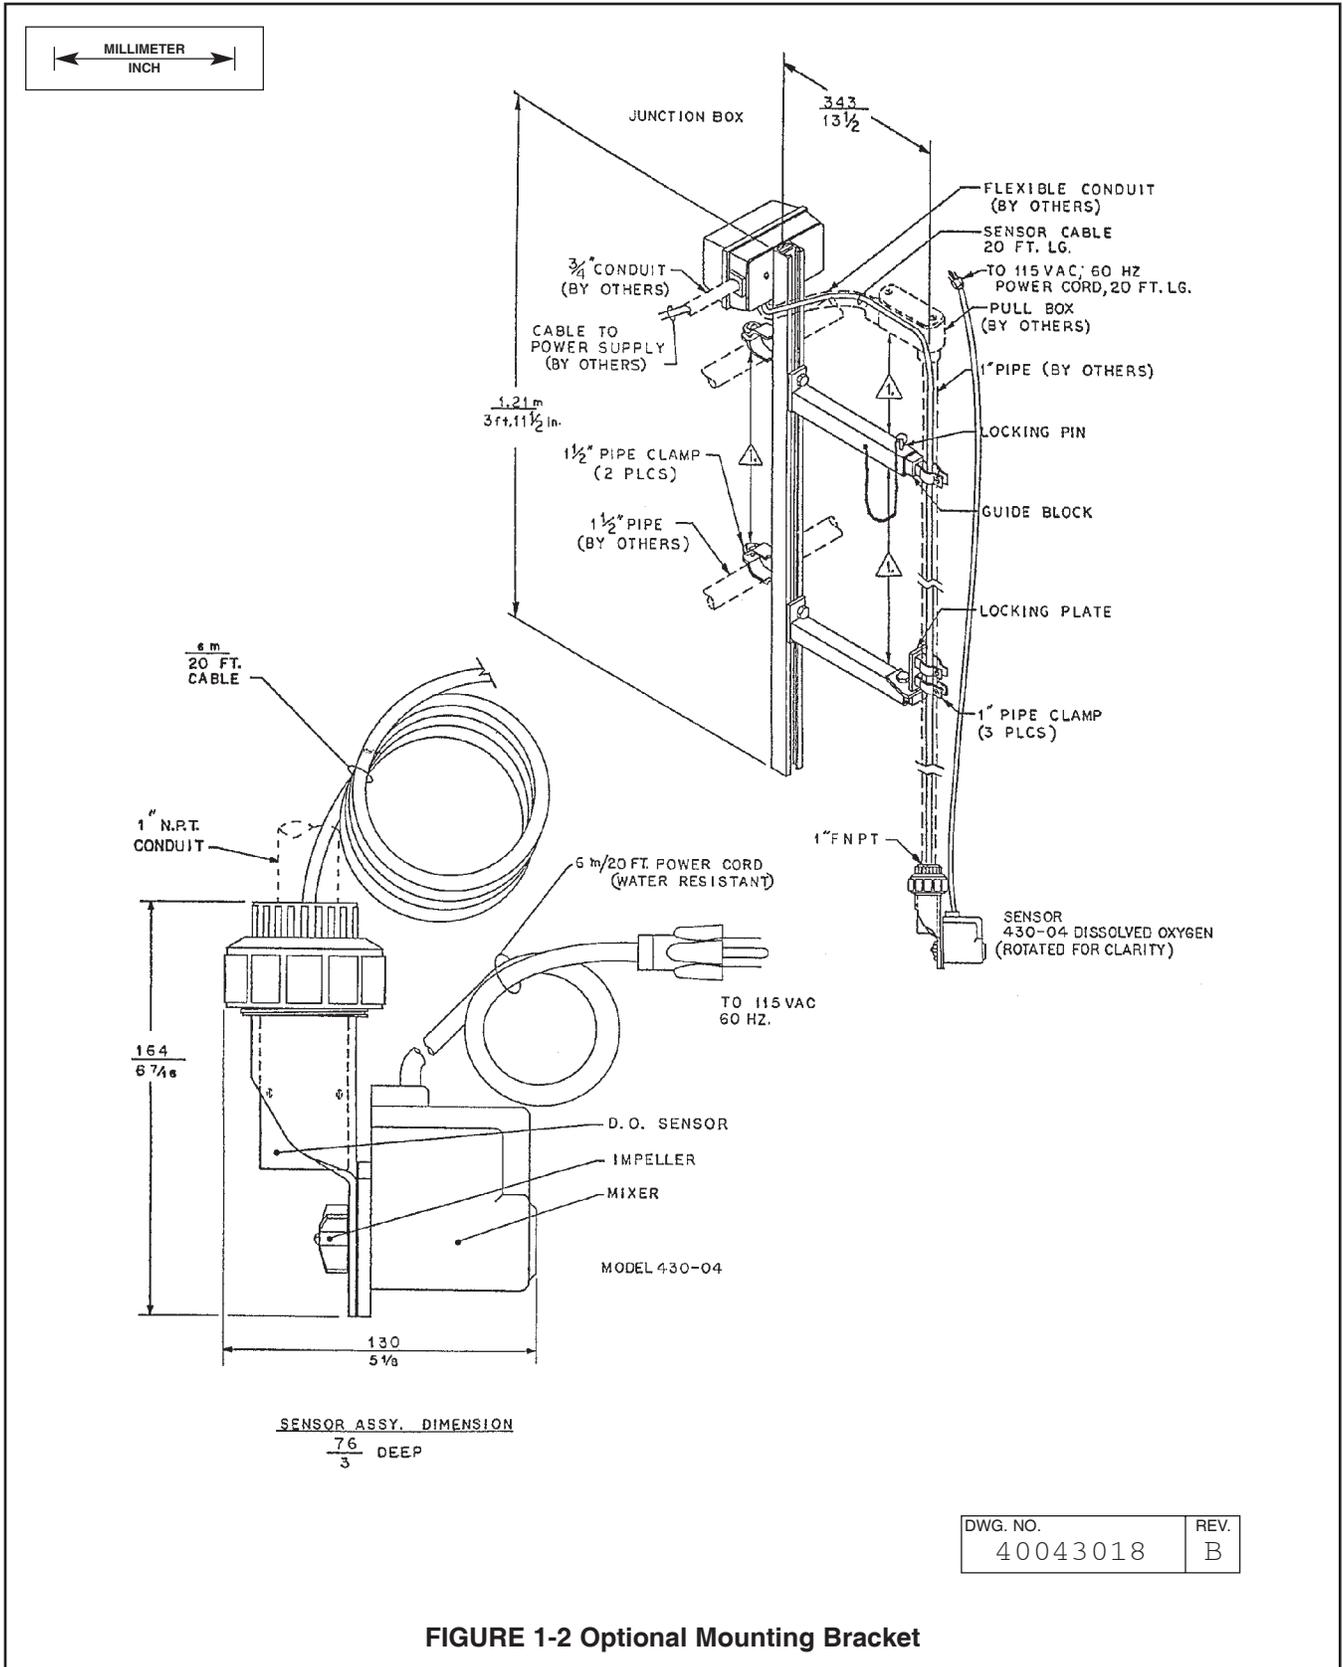
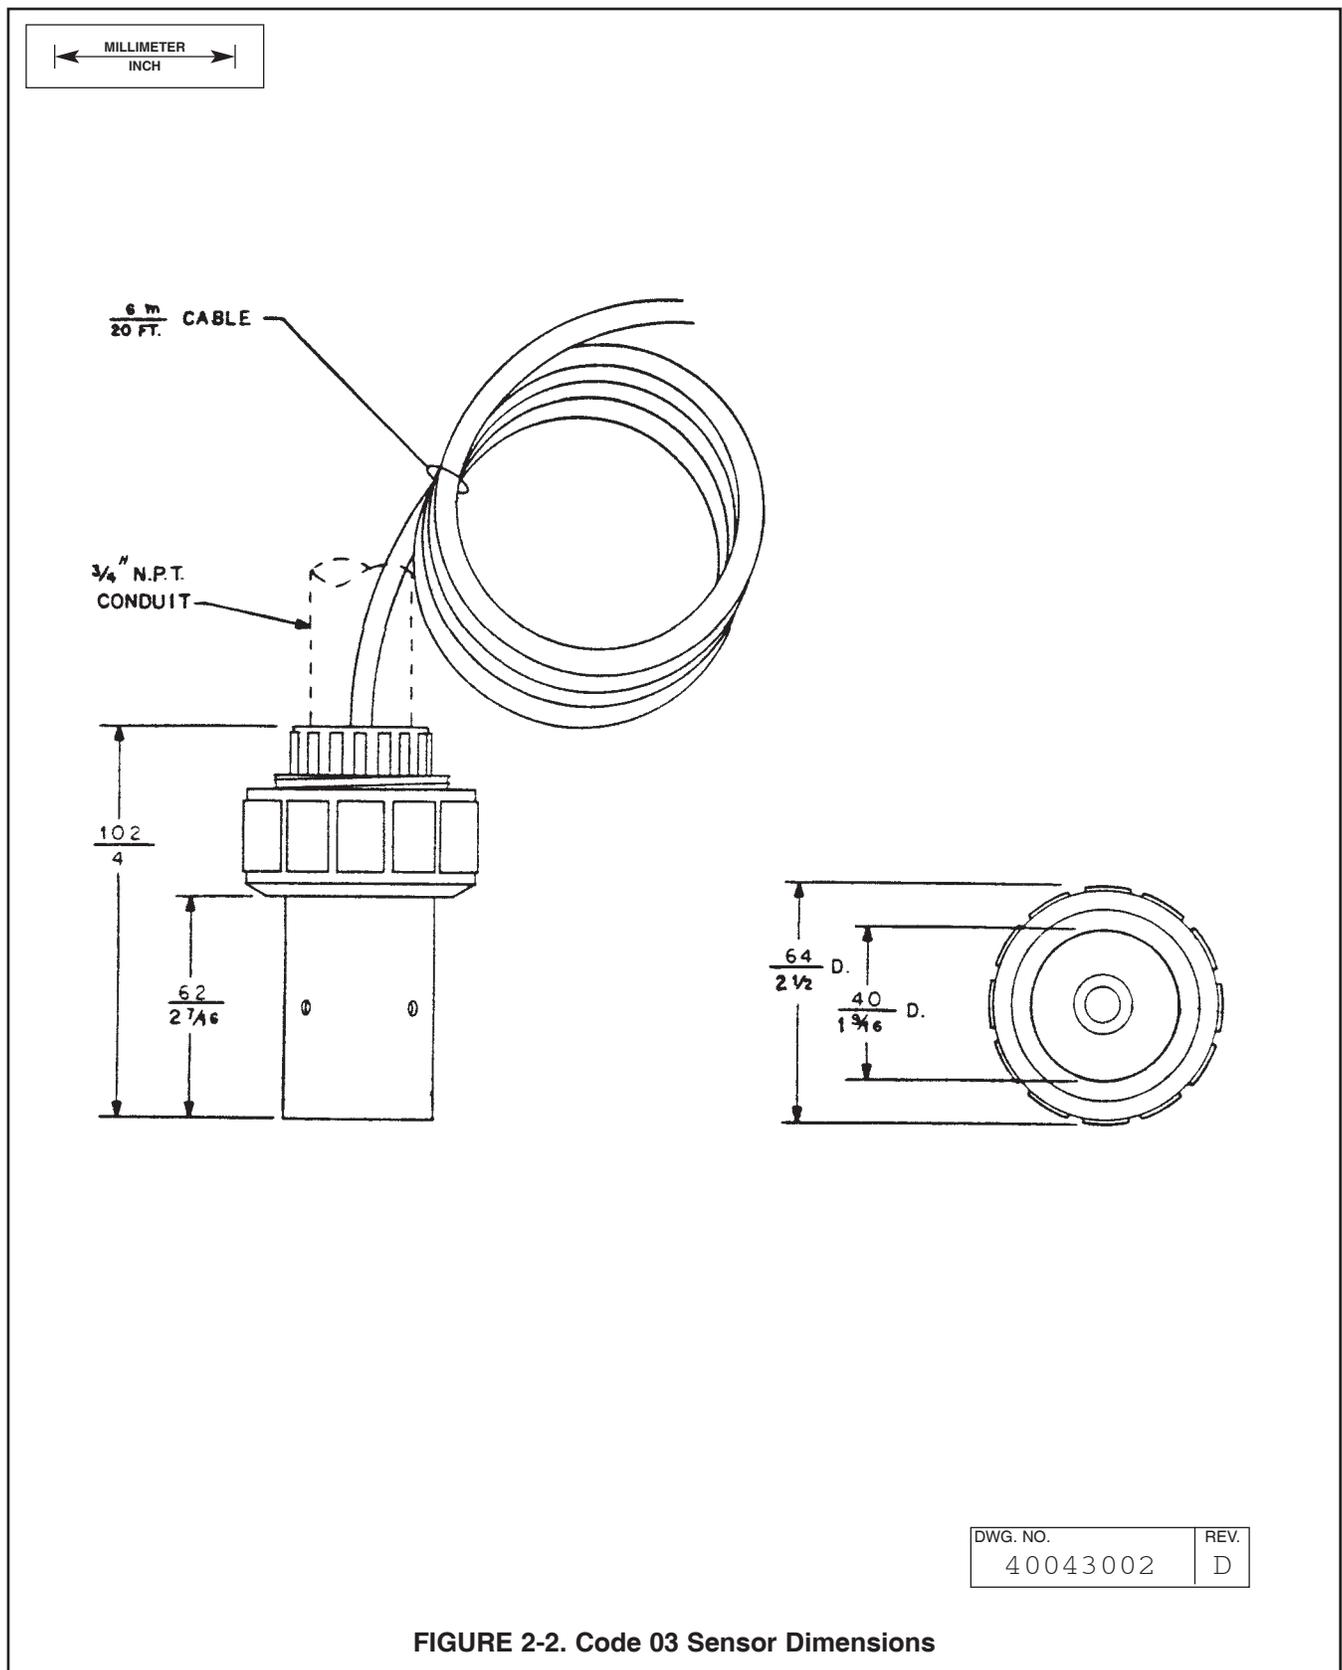

FIGURE 1-2 Optional Mounting Bracket
FIGURE 2-2. Code 03 Sensor Dimensions
2.3 MECHANICAL INSTALLATION. The sensor comes in four different configurations. Follow the instruction for the configuration being installed. See Figure 2-2 for dimensions. Figure 1-2 illustrates optional bracket assembly for sensor installation in tanks or ponds.